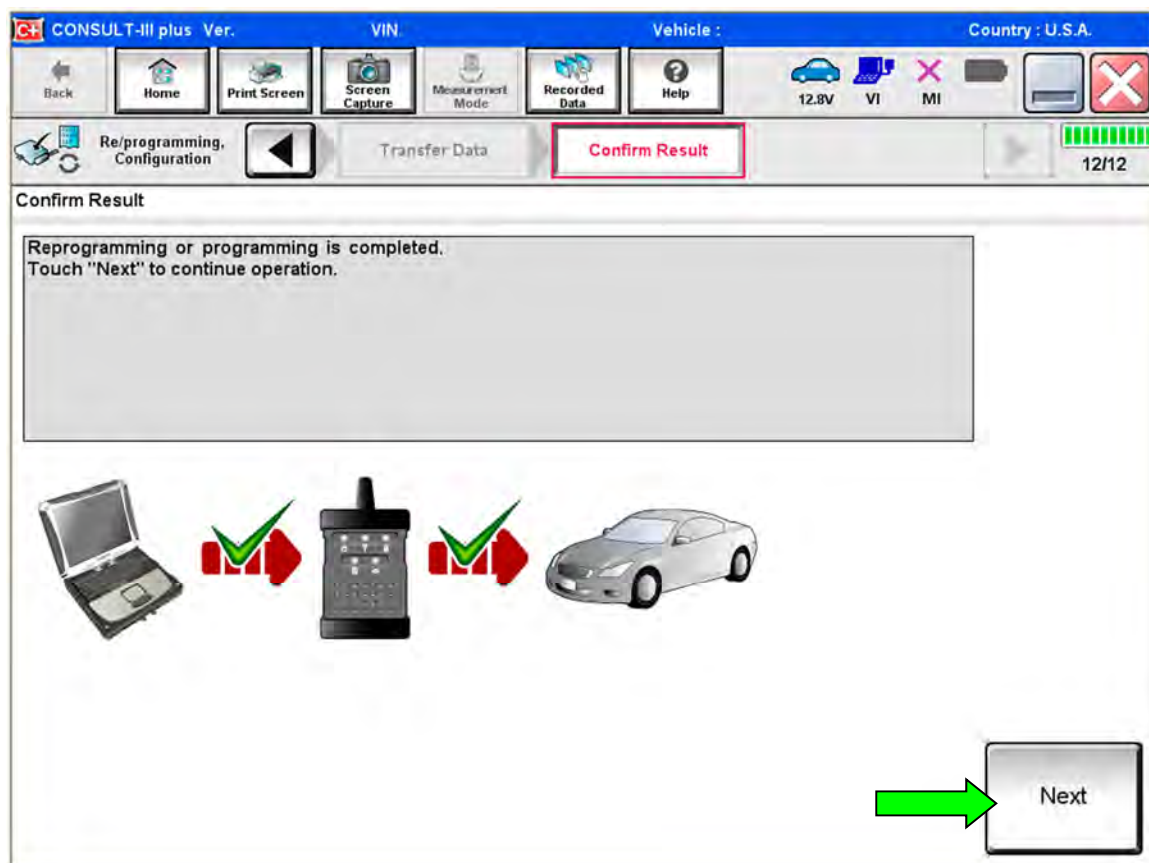

Figure 168
146. When the screen in Figure 168 displays, reprogramming is complete.
**HINT:** If the screen in Figure 168 does not display (indicating that reprogramming did not complete), refer to the information on the next page.